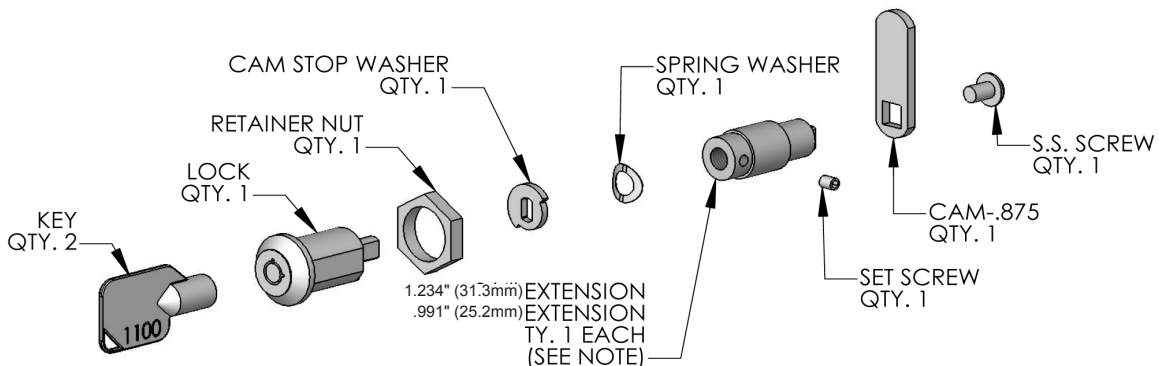

Figure 9
Two (2) lock extensions are supplied with the lock. Use the longer extension for a  $\frac{3}{4}$ " thick overlay panel and the shorter one for a  $\frac{5}{8}$ " thick panel. Assemble the lock extension, cam stop washer, spring washer, and set screw to the lock as shown in Figure 9 and 10.